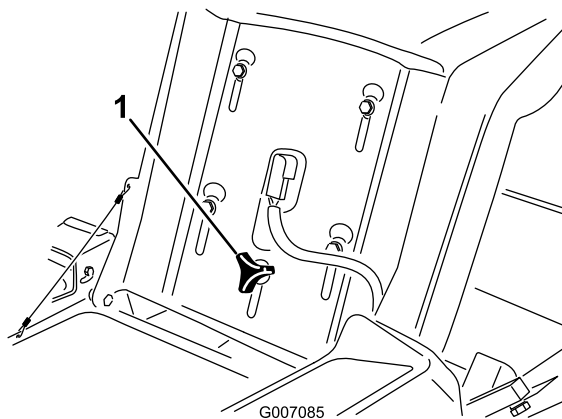

Figure 22
1. Raise the seat and loosen the adjustment knob just enough that seat can move (Figure 22).